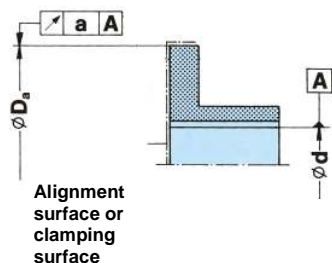

Fig. 2
When boring the hub (1), please observe the maximum permitted bore diameter, the specified keyway form and the permitted true-running and axial eccentricity deviation, Fig. 2 and Table 3.